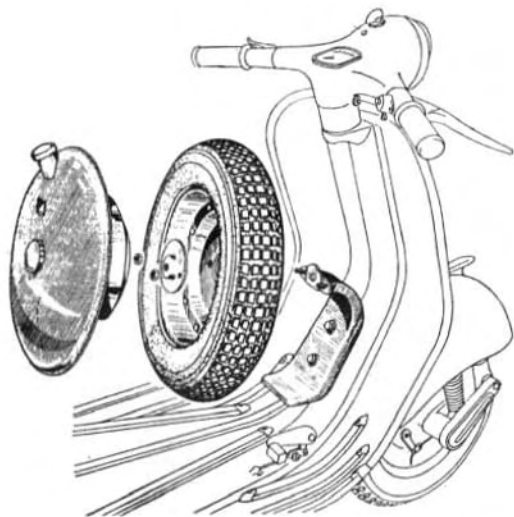

Fig. 16 - Reserve wheel and tank.
- **Spare wheel and support.** The wheel support, with a packing in-between, can be secured to the two holes in the middle of the longeron. It is very simple and holds the wheel in a vertical position, quite easy to reach (see Fig. 16).